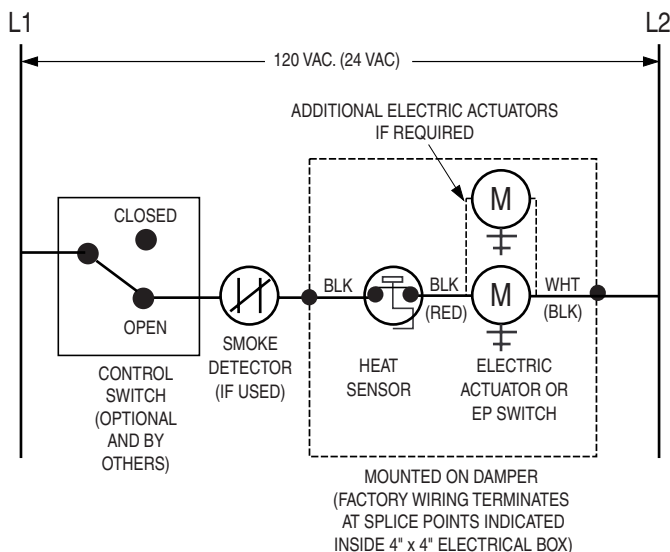

Figure 1. ERL Wiring
- Duct diameters 22" (559) and smaller must use three #10 sheet metal screws equally spaced around the circumference.
**4 Damper/sleeve attachment:** Damper shall be secured to sleeve with 1/4" (6) long welds, 3/16" (4.76) steel rivets, 1/4" (6.35) dia. bolts and nuts, #8 sheet metal screws, or 3/16" (4.76) dia. buttonlocks on both sides at 6" (152) on center and a maximum of 4" (102) from the corners of the damper on all four sides. For field assembled sleeves, the inner dimensions of the sleeve shall be equal to the outer dimensions of the damper. All joints between the damper and the sleeve shall be sealed with Dow-Corning 732, G.E.108, Boss 310 or 315 RTV silicone sealant on one side only.
**5. Upper Retaining angles** shall be a minimum of 1 1/2" x 1 1/2" x 16 gauge (38 x 38 x 1.61). Secure the retaining angles to the sleeve with 1/2" (12.7) long welds, 1/4" (6.35) dia. bolts and nuts, 3/16" (4.76) dia. steel rivets or #8 sheet metal screws 8" (203) on center and 2" (51) maximum from corner of sleeve on all four sides. The retaining angles must lap the structural opening by 1" (25.4) minimum. When the ductwork terminates at the ceiling, 2" (51) wide mounting tabs are fastened to the sleeve in two places on each of two opposite sides of the sleeve. These tabs are bent over after installing damper through ceiling opening. A steel grille or diffuser frame with a minimum 1" (25.4) flange is then fastened to the mounting angle tabs with sheet metal screws.
**ERL (Electric Resettable Link):** Dampers are supplied with an electric thermostat-type temperature responsive device as standard. Refer to Figure 1 for wiring of the ERL. If dampers are ordered with a pneumatic actuator and ERL, an EP switch is required with an appropriate electric power circuit to allow the ERL to control the pneumatic actuator.